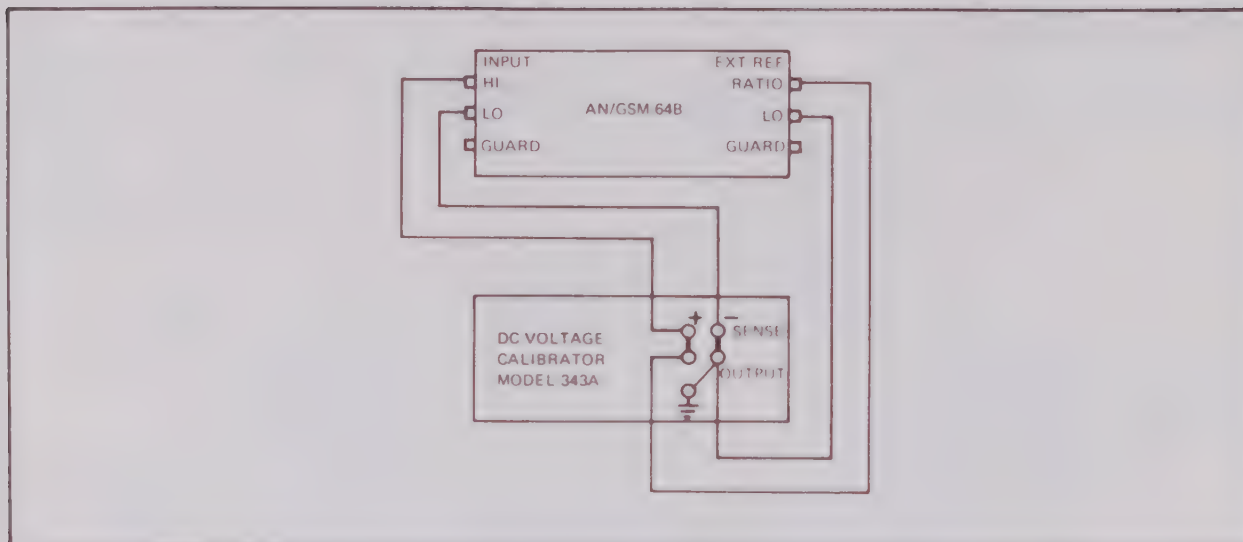

Figure 17. RATIO CHECK EQUIPMENT CONNECTION
- Connect equipment as shown in Figure 17.
- j. Connect equipment as shown in Figure 17.